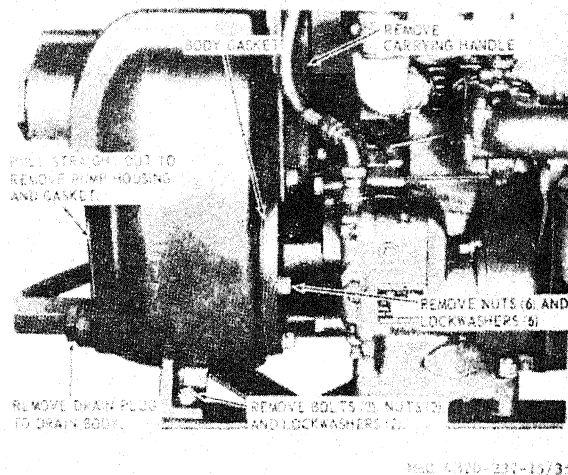
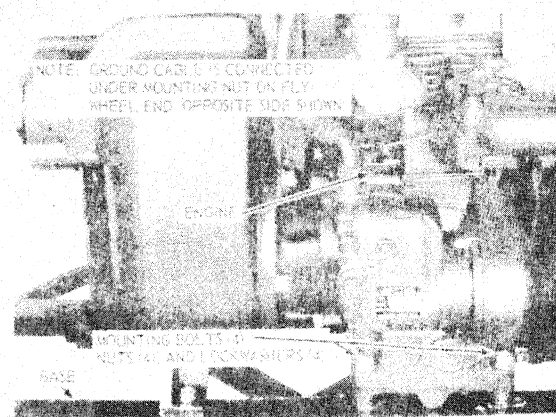
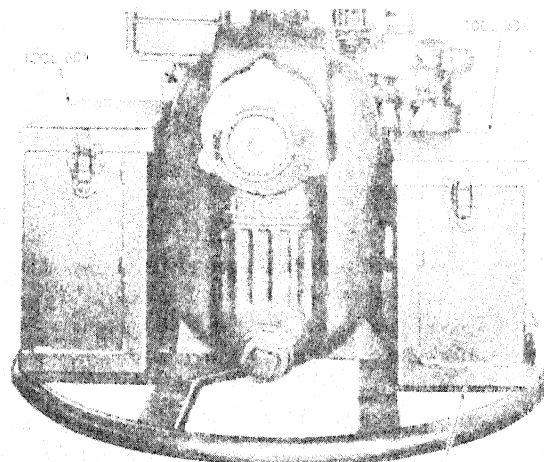

Figure 35. Pump housing, removal and installation.
Figure 37. Engine, removal and installation.
Figure 38. Tool boxes, removal and installation.
*e. Tool Box and Housing Installation.* Refer to figure 38 and install the tool boxes, and to figure 35 and install the pump housing.
*a. Removal.* Refer to figure 38 and remove the tool boxes, and to figure 37 and remove the engine.
- (1) Clean the engine with a cloth dampened with an approved cleaning solvent; take care to remove all greasy and oily deposits.
- (2) Inspect the engine for missing components and visible damage. Using the starter rope, turn the engine crankshaft over slowly and check for scraping or binding.
- (3) With the ignition switch in the OFF position to prevent engine starting, turn the engine crankshaft over with the starting rope to check for compression.
- (4) If normal compression resistance is not noted, or if engine binds or scrapes when the crankshaft is rotated slowly, report to direct support maintenance.
*c. Installation.* Refer to figure 37 to install the engine, and to figure 38 to install the tool boxes.
- STEP 2. INSTALL BODY (FIGURE 35) AND CHECK IMPELLER FOR RUBBING AS BODY NUTS ARE TIGHTENED. IF RUBBING OCCURS, REMOVE BODY AND SUBSTITUTE 1/32 INCH BODY GASKET AND REINSTALL BODY. CONTINUE TO ADD BODY GASKET THICKNESSES IN 1/64 INCH INCREMENTS UNTIL RUBBING CEASES AND IMPELLER IS FREE.
a. *Removal.* Refer to figure 38 and remove the tool boxes.
- (1) Clean the tool boxes with a cloth dampened with an approved cleaning solvent. Wipe dry.
- (2) Inspect the tool boxes for cracks, enlarged mounting holes, damaged or sticking hinges, severe dents, and other damage. Lubricate sticking hinges with light penetrating oil. Replace a damaged tool box.
c. *Installation.* Refer to figure 38 and install the tool boxes.